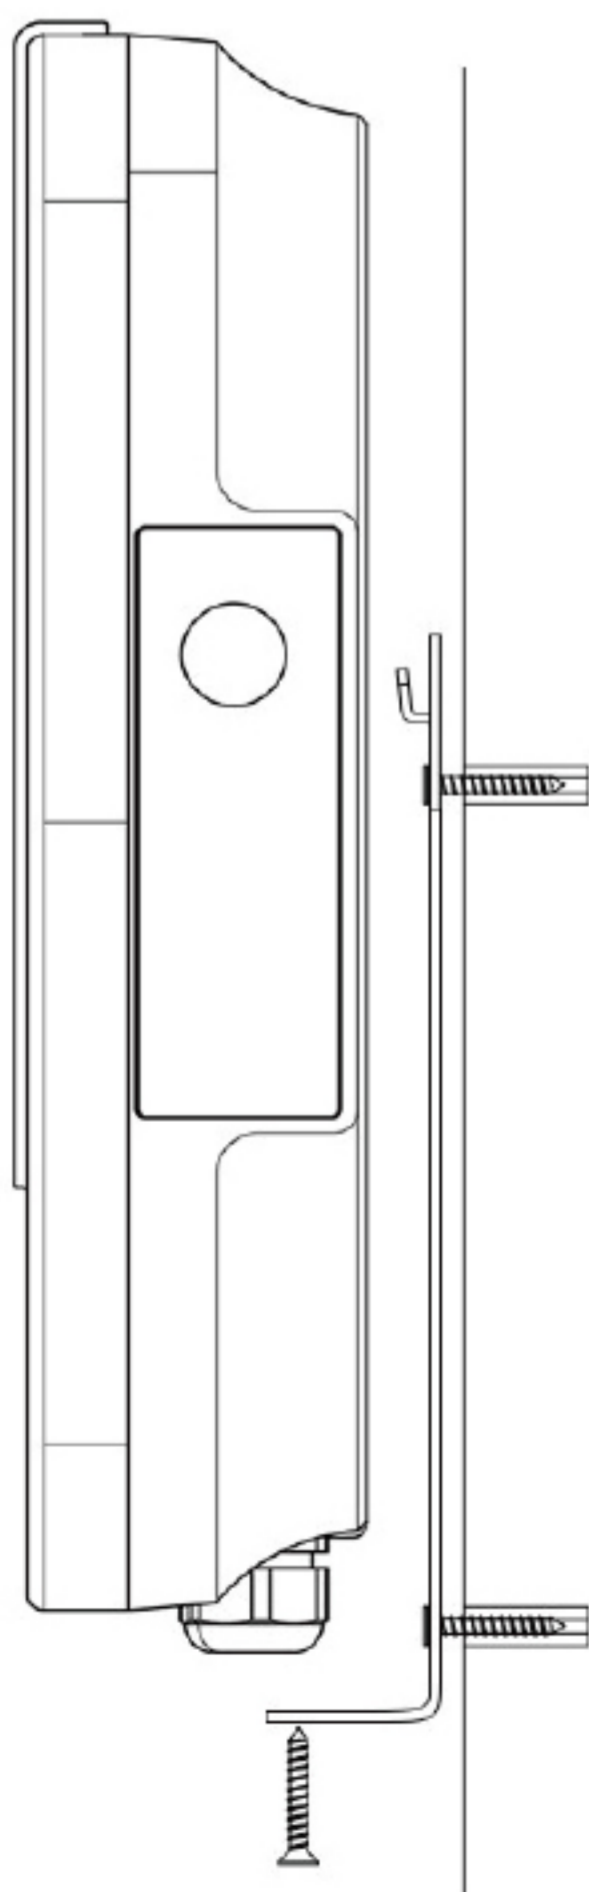

Fig. 6
3) Wall-mounted installation and fixation (Fig. 6).